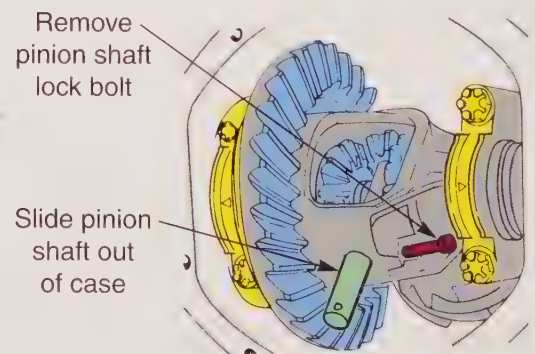

Figure 17-6. To remove a C-lock axle, the pinion shaft in the differential case must be removed. (Ford)
6. Remove the pinion shaft, which holds the spider gears, by unscrewing the lock bolt. Push the shaft out of the differential case. See **Figure 17-6**. You may need to rotate the case so the shaft clears the rear axle housing. The spider gears can be left in place.